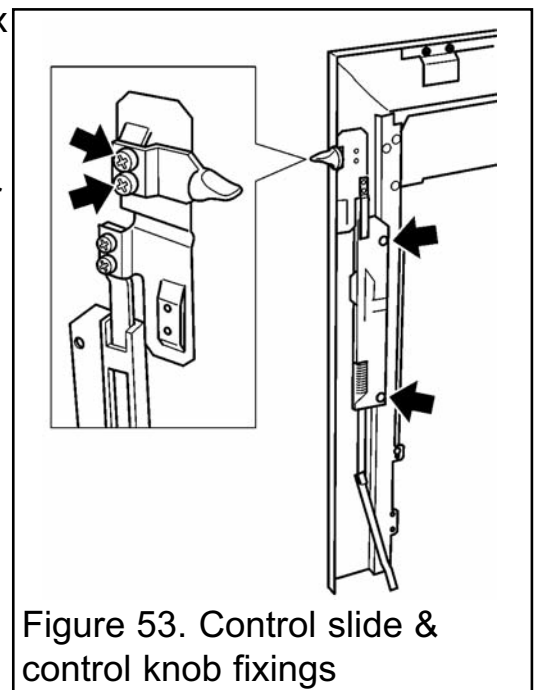

Figure 53. Control slide & control knob fixings
3. Detach the control knob by removing two screws (See figure 53).